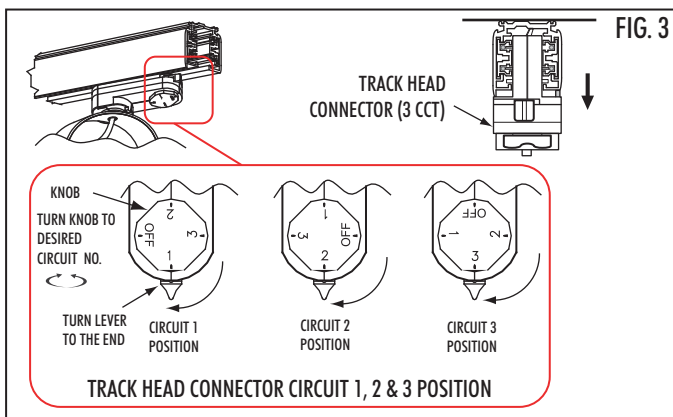

FIG. 3
9. Install the fixtures Track Head Connector into the Track (FIG. 2) at the desired location and turn the Lever on the Track head to the end of the Track Head (FIG. 3).